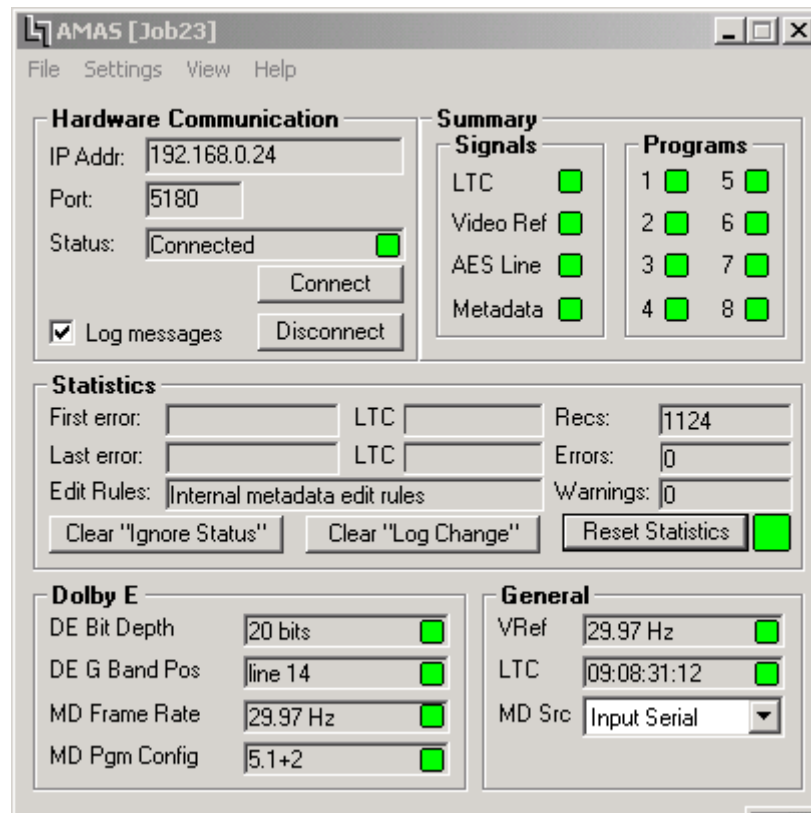

Figure 5-1 Main AMAS window.
5.4.1 Main AMAS Window (Figure 5-1):